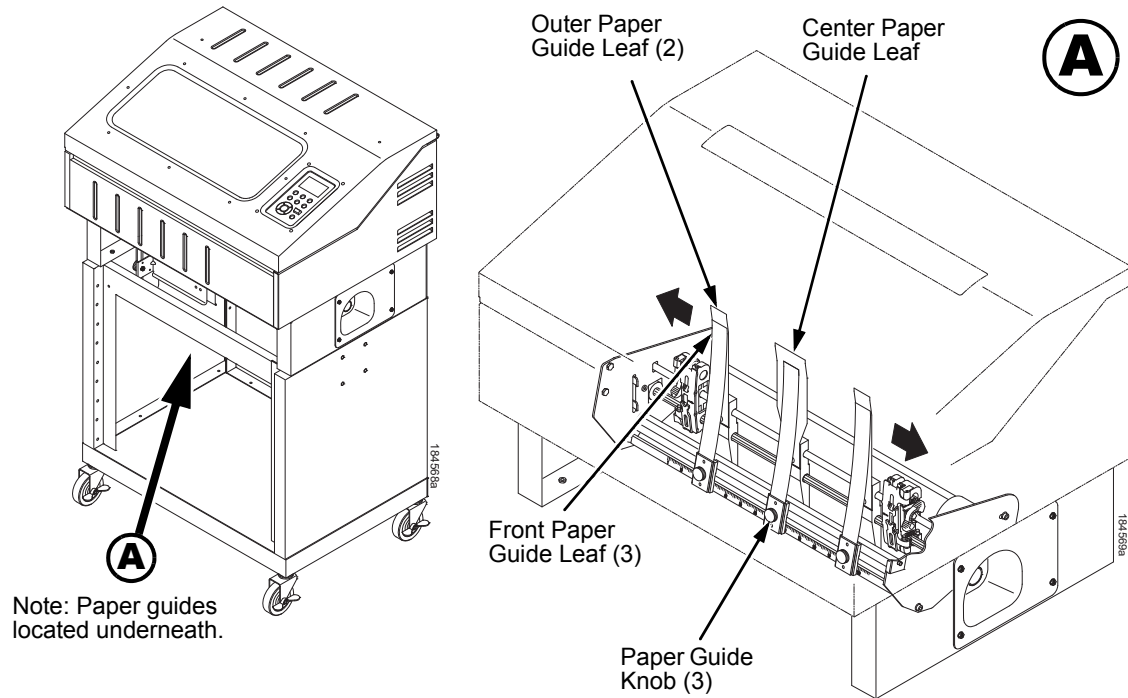

Figure 54. Adjusting the Paper Guides
1. Remove the left paper guide knob and the left, front paper guide leaf. (See Figure 54.)
7. Install the paper guide knobs and front paper guide leaves. (See Figure 54.)